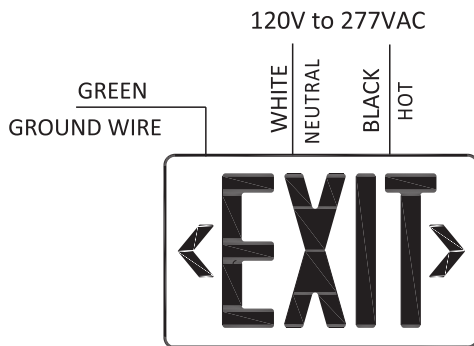

Fig. 4
1. Open EXIT panel from the housing (Fig. 4) and remove the hole plugs from the top (or side) of the housing, if necessary.